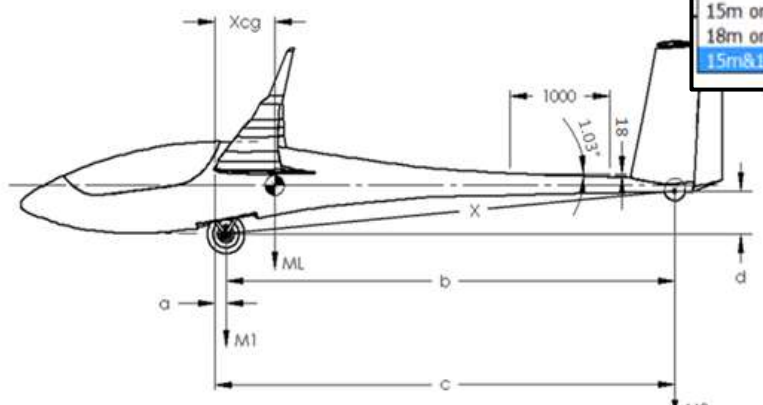

Figure 8-4
- x** The distance between the main wheel axle and the tail wheel axle centre, as indicated in Figure 8-4.